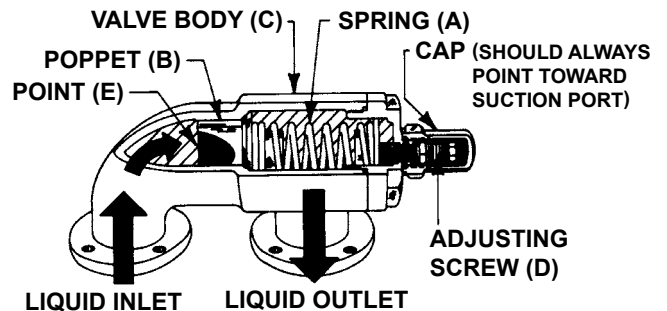

FIGURE 4
The pressure relief valve mounted on Viking pumps and most in-line valves are of the spring loaded poppet design **See Figure 4**. The spring (A) holds poppet (B) against the seat in the valve body (C) with a given force determined by the spring size and by how tightly it is compressed by the adjusting screw (D). The pump discharge pressure pushes against the underside of the poppet at point (E). When the force exerted by the liquid under the poppet exceeds that exerted by the spring, the poppet lifts and liquid starts to flow through the valve. As the discharge pressure builds up, more and more of the liquid flows through until a pressure is reached at which all of the liquid being pumped is going through the valve. This pressure is the relief valve setting.